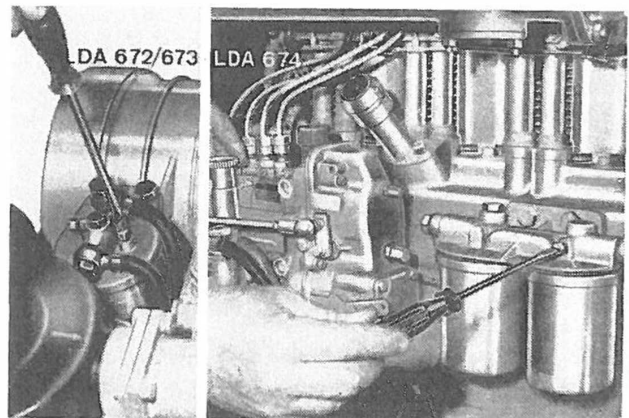

Fig. 102
Riavvitare la vite (Fig. 102) proseguendo ad azionare la pompa.
2. Manually operate fuel feeding pump and loosen fuel filter bleeding plug until a steady flow is obtained. Turn screw in (Fig. 102) and continue to operate pump.